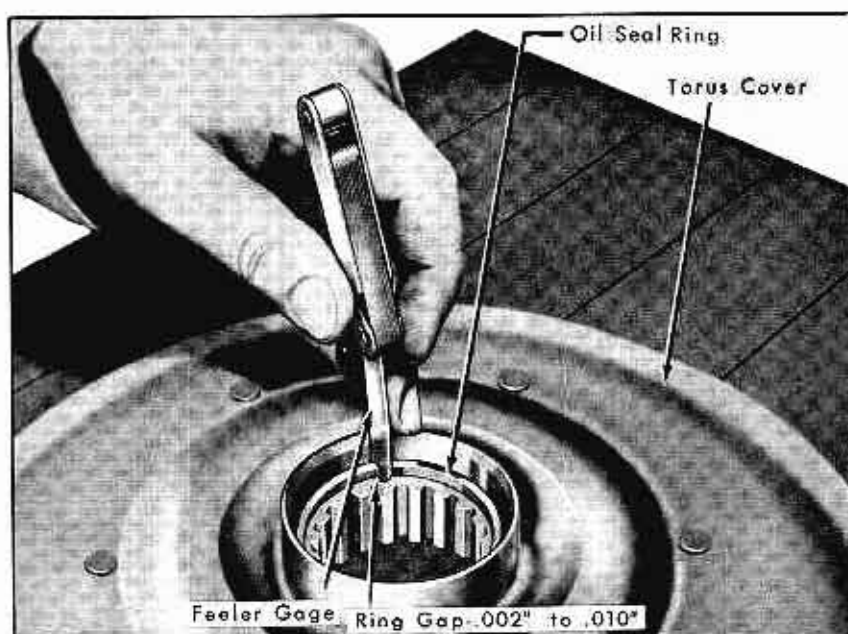

Fig. 14-80 Measuring, Front Cover Ring Gap
2. Place oil seal ring in bore of torus cover neck. Measure ring gap, using a feeler gage, Fig. 14-80. Maximum gap should be .010 inches.